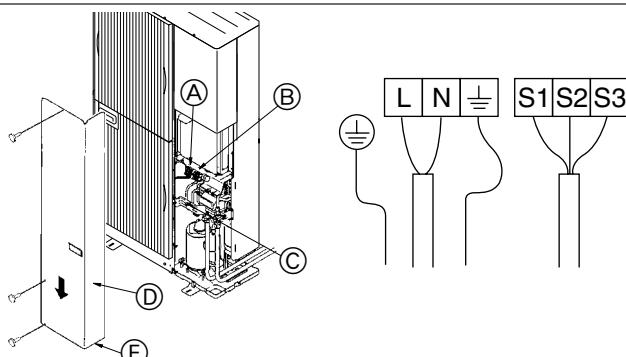

Fig. 7-1
7.1. Outdoor unit (Fig. 7-1)
- ① Remove the service panel.
- ② Wire the cables referring to the Fig. 7-1.
④ Wire the cables so that they do not contact the center of the service panel or the gas valve.